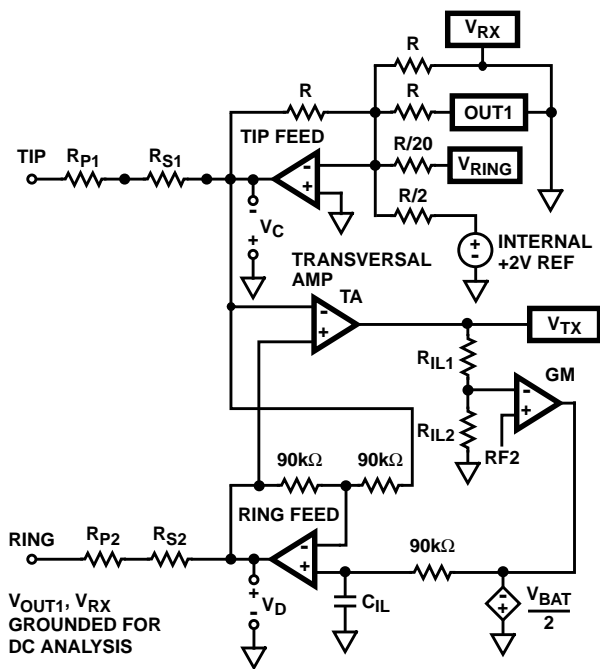

FIGURE 5. OPERATION OF THE TIP AND RING AMPLIFIERS
The tip and ring amplifiers are voltage feedback op amps that are connected to generate a differential output (e.g., if tip sources 20mA then ring sinks 20mA). Figure 5 shows the connection of the tip and ring amplifiers. The tip DC voltage is set by an internal +2V reference, resulting in -4V at the output. The ring DC voltage is set by the tip DC output voltage and an internal $V_{BAT}/2$ reference, resulting in $V_{BAT} + 4V$ at the output. (See Equation 3, Equation 4 and Equation 5.)
Current limiting is achieved by a feedback network (Figure 5) that modifies the ring feed voltage (V_D) as a function of the loop current. The output of the Transversal Amplifier (TA) has a DC voltage that is directly proportional to the loop current. This voltage is scaled by R_{IL1} and R_{IL2} . The scaled voltage is the input to a transconductance amplifier (GM) that compares it to an internal reference level. When the scaled voltage exceeds the internal reference level, the transconductance amplifier sources current. This current charges C_{IL} in the positive direction causing the ring feed voltage (V_D) to approach the tip feed voltage (V_C). This effectively reduces the tip feed to ring feed voltage (V_{T-R}) and holds the maximum loop current constant.